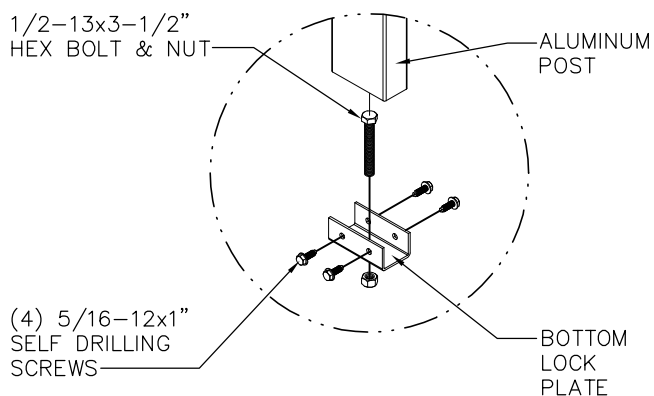

FIGURE 2
ASSEMBLE THE BOTTOM LOCK PLATE BY SLIDING (1) 1/2-13x3-1/2" BOLT DOWN THROUGH THE TOP OF THE BOTTOM LOCK PLATE AND SECURING WITH THE HEX NUT FROM BELOW. ATTACH THE BOTTOM LOCK PLATE TO THE BOTTOM OF THE OUTER POST WITH (4) 5/16-12x1" SELF DRILLING SCREWS AS SHOWN IN FIGURE 2.